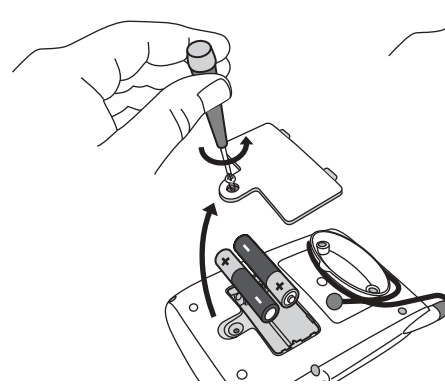

Fig. 3
2. Place batteries in compartment as shown (Fig. 3).